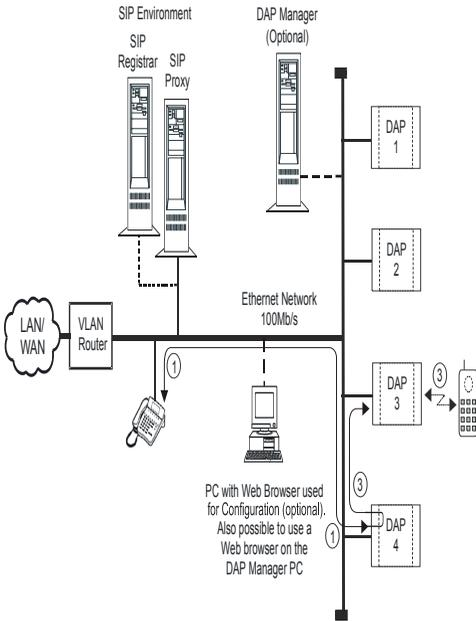

Figure 2-9 Handover taken place, new connection active.
After this the connection is diverted (3) from DAP 4 to DAP 3. See Figure 2-9 "Handover taken place, new connection active." DAP 4 will release the radio connection to the handset and diverts it over the IP network. Note that the original connection is not removed from DAP 4, but DAP 4 "relays" the connection to DAP 3. DAP 4 cannot release the IP voice connection, because the IP voice connection between the SIP IP extension and the DAP 4 is established, based on a combination of sockets. This combination is fixed during the connection.